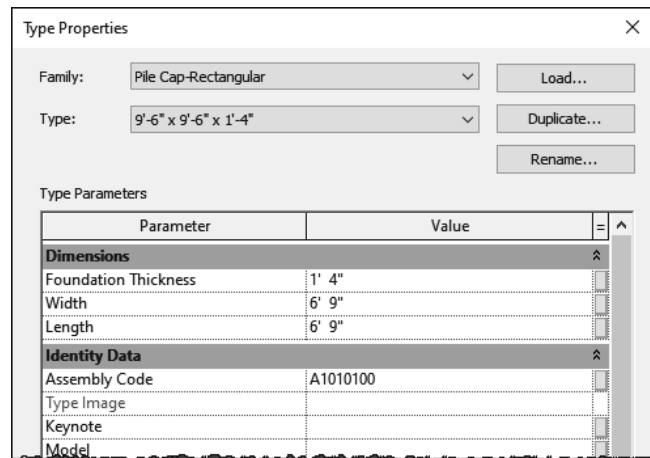

FIGURE 8-5.8 Isolated footing type properties
37. Adjust the *Width*, *Length*, and *Foundation Thickness* parameters accordingly; make them match the new type name you just created. See **Figure 8-5.8**.